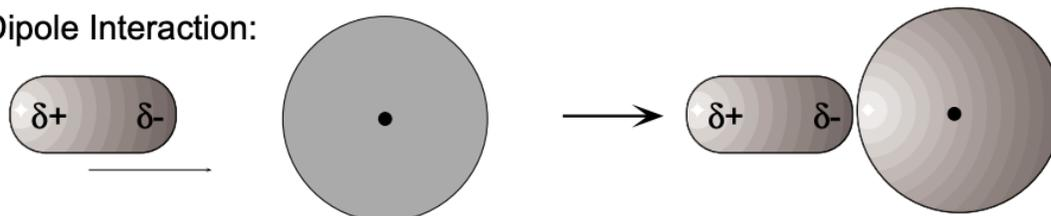

Figure 11
2. **Dipole-Induced Dipole Interaction:** A dipole in one molecule can interact with and polarize the electrons of a neighboring non-polar molecule, thus generating an induced dipole which will experience an attractive force with the polarizing, polar dipole (fig. 11). P. Debye showed that in a molecule with a "polarizability" of (α) the attractive potential arising from dipole-induced dipole interaction is given as: